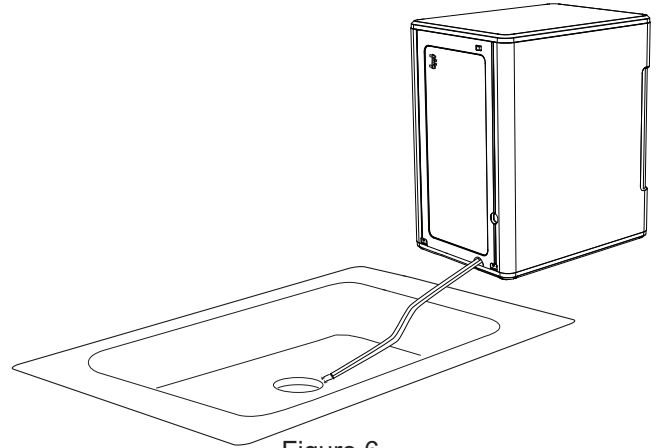

Figure 6
- 10. Then lay them down to drain into a sink or bucket that is below the level of the ice maker. See figure 6 and 7.